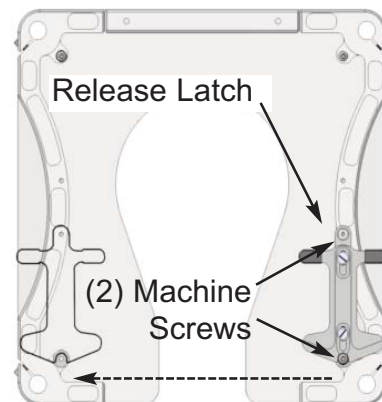

Figure 9
- 4) Reverse the release latch: Use the provided black L-Handle wrench to remove the latch by unscrewing the two machine screws, which attach it to the seat frame. Re-install the release latch on the opposite side of the seat frame (Refer to Figure 9).